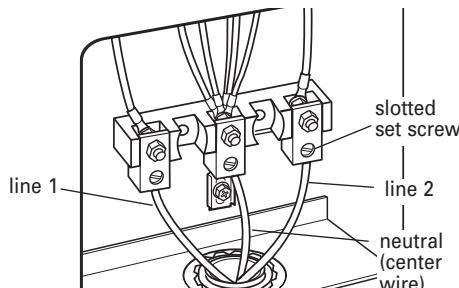

Figure 3
12. Loosen (do not remove) the 3 slotted set screws. Insert the neutral (white) wire into the hole at the bottom of the center position terminal lug (attached to center terminal screw of terminal block). See Figure 3.
10. Loosen (do not remove) the 3 slotted set screws. Insert the neutral (white) wire into the hole at the bottom of the center position terminal lug (attached to center terminal screw of terminal block). See Figure 3.
12. Securely tighten the set screws. For 8 gauge copper wire, tighten to 25 in/lbs of torque, and for 6 gauge aluminum wire, tighten to 35 in/lbs of torque to make a proper electrical connection. See Figure 3.